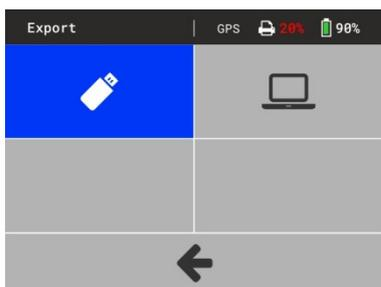

Figure 23
- Select within measuring instrument under menu measured data / export the transfer mode (Figure 23) and confirm with key.